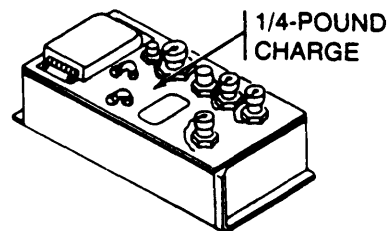

Figure 3-27. Explosive Charge Location for Power Distribution Unit - M56 Gas-Particulate Filter Unit.
(2) Power distribution unit. Place 1/4 pound charge on top (fig 3-27).